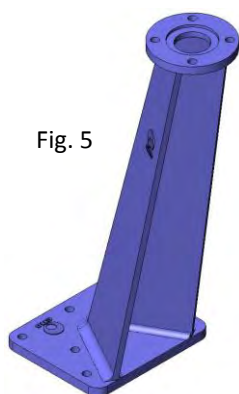

Fig. 5
- Leaning floor stand (Fig. 5)